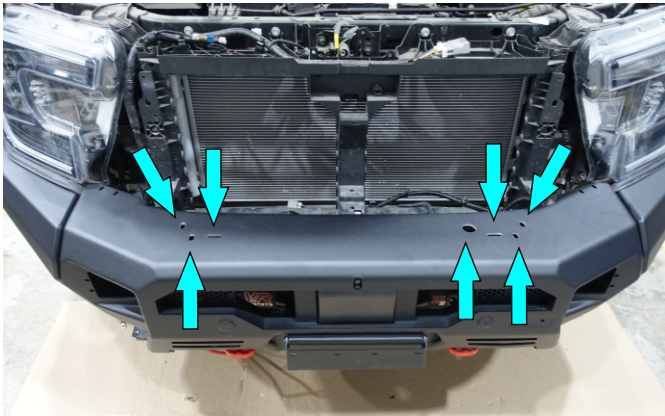

Fig.82
78. Hammer out plugs from the upper face of bumper body (fig. 82).